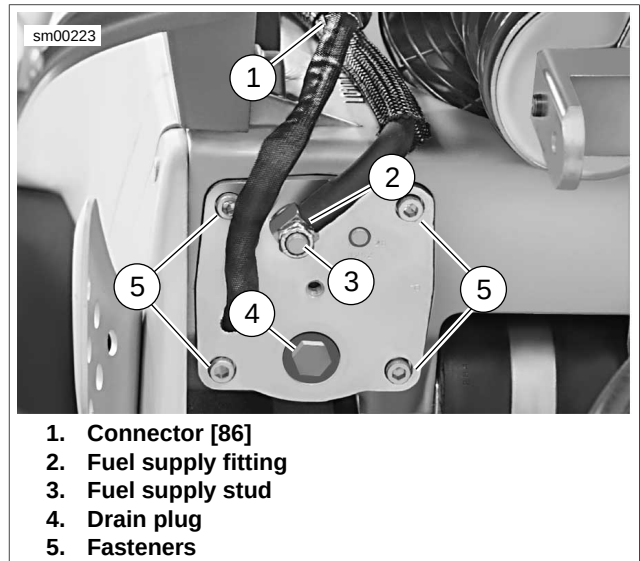

Figure 4-36. Fuel Pump Installation
3. See Figure 4-36. Remove terminals from fuel pump connector [86].